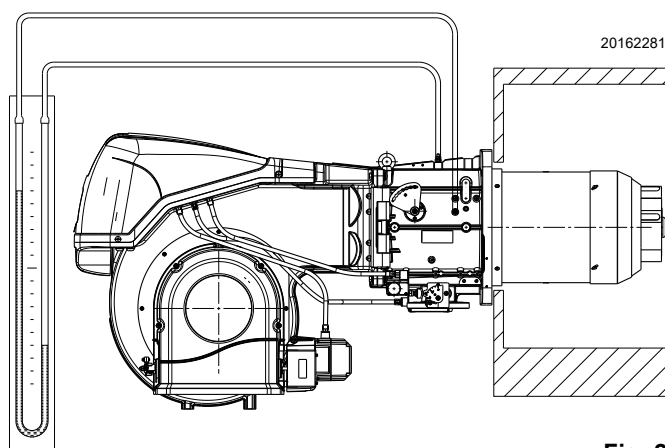

Fig. 23
- Fit a U-type pressure gauge or a differential pressure gauge (Fig. 23), with socket (+) on the gas pressure of the pipe coupling and (-) in the combustion chamber.
The arrival of gas at the pipe coupling is indicated by the U-type pressure gauge (Fig. 23).
As an indicative guide it can be taken from Tab. L on page 23, just read the gas pressure on the U pressure gauge (shown in Fig. 23 on page 26) and follow the instructions: